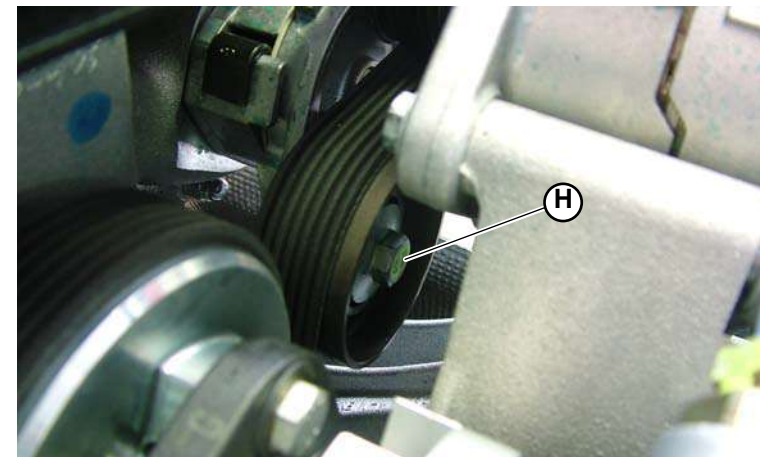
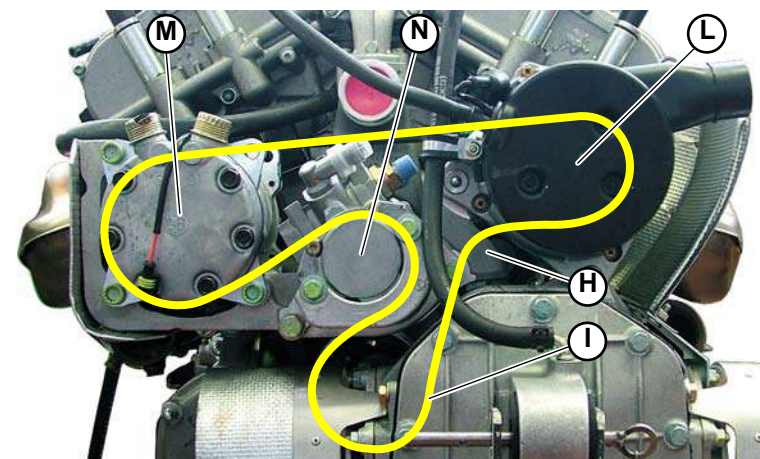

Fig.5
Fig.6
5. Remove the belt tensioner (**E-Fig.5**) by means of a 15 mm wrench.
6. Push on the belt tensioner (**H-Fig.5/6**), push the alternator towards the center of the engine and make the belt (**I-Fig.6**) slide outside the alternator pulley; then push the alternator (**L-Fig.6**) towards the outside.
7. Make the belt slide outside the air conditioning system (**M-Fig.6**), the water pump and the engine (**N-Fig.6**) pulleys and then remove the belt.